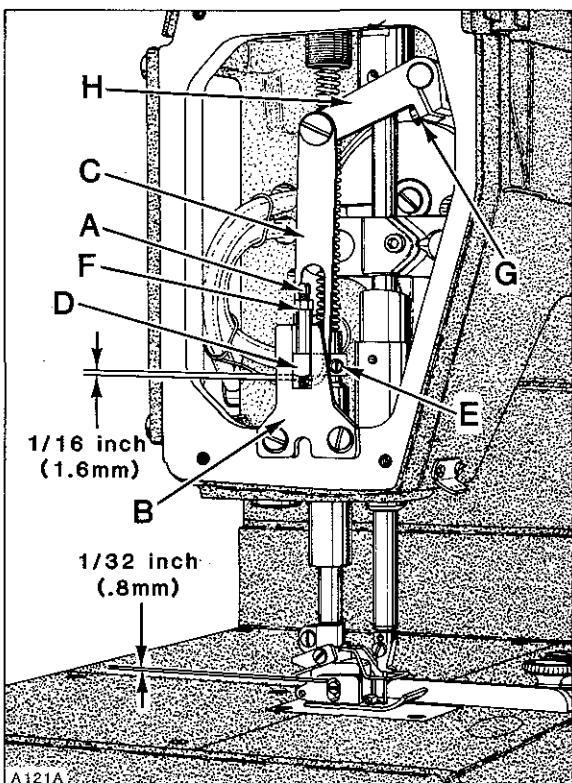
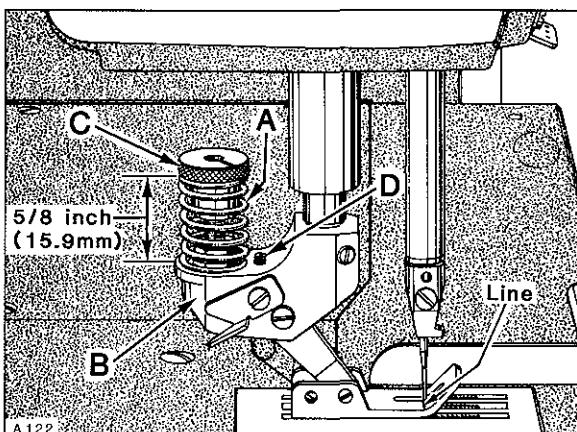

Fig. 19
Fig. 20
With needle bar at bottom of stroke and presser foot resting squarely on throat plate, there should be minimum clearance of $1/64$ inch (0.4mm) between the bottom of screw (A, Fig. 19) and bottom of slot in presser bar guide plate (B). There should also be $1/16$ inch (1.6mm) clearance between bottom of slot in lifter lever link (C) and bottom of presser bar guide (D) when foot lifter lever is released. If adjustment is required, proceed as follows:
With needle bar at bottom of stroke and presser foot resting on throat plate, there should be 1/32 inch (.8mm) clearance between top of screw and top of slot in presser foot as shown in Figure 19. There should be 1/16 inch (1.6mm) clearance between bottom of slot in lifter lever link (C) and bottom of presser bar guide (D) when foot lifter lever is released. If adjustment is required, proceed as follows: Loosen nut (F) and turn screw (A) down approximately 1/8 inch (3.2mm) below bottom surface of presser bar guide (D). Back off presser spring regulating screw and loosen screws (E) in presser bar guide (D) so that presser foot is sitting squarely on throat plate and screw (A) is touching the bottom of the presser bar guide plate, then secure screws (E).
With presser foot resting on throat plate and the needle in its lowest position, the distance from top of spring (A, Fig. 20) to top of yoke (B) should be 5/8 inch (15.9mm) and the line stamped across the presser foot bottom should line up with centerline of needle.
As the presser foot is raised, its bottom should move VERY SLIGHTLY towards the rear...1/64 inch (.4mm) maximum. If adjustment is required, proceed as follows: Remove presser spring regulating screw, presser bar spring guide and presser bar spring. Loosen nut (F, Fig. 19) and turn screw (A) down approximately 1/8 inch (3.2mm) below bottom surface of presser bar guide (D). Loosen screws (E) in presser bar guide (D). Adjust spring regulator nut (C, Fig. 20) as required so its lower surface is 5/8 inch (15.9mm) from top of yoke (B) as viewed in Fig. 20. With presser foot resting on throat plate and feed dog down below throat plate, press down on spring regulator nut (C) until the marks in presser foot bottom align with centerline of needle and positioned to keep needle in center of needle slot. Tighten screws (E, Fig. 19) securing presser bar guide to presser bar, ensuring stop screw (A) in presser bar guide is resting on bottom of presser bar guide plate. Replace presser bar spring, presser bar spring guide and presser spring regulating screw. Turn regulating screw down until the top of its threaded portion is level with head casting. Rotate handwheel to position feed below throat plate with presser foot resting on throat plate. Depress presser foot lifter lever to see if presser foot bottom moves SLIGHTLY towards the rear before presser foot begins to lift.
Adjustment can be made by turning stop screw (D, Fig. 20) clockwise to shorten or counterclockwise to lengthen the distance of travel.
Loosen screw (G, Fig. 19) in lifter arm (H) and rotate arm slightly as required to obtain 1/16 inch (1.6mm) clearance between link (C) and guide (D); retighten screw (G), assuring all end play is removed from lifter arm (H).
Purpose of the feeding presser foot is to make top and bottom plies of material feed the same amount without pulling on the bottom ply. Final adjustment may be required to match plies; turning nut (C, Fig. 20) to increase pressure on spring (A) will tend to feed the bottom ply more...decreasing pressure will tend to feed the top ply more.